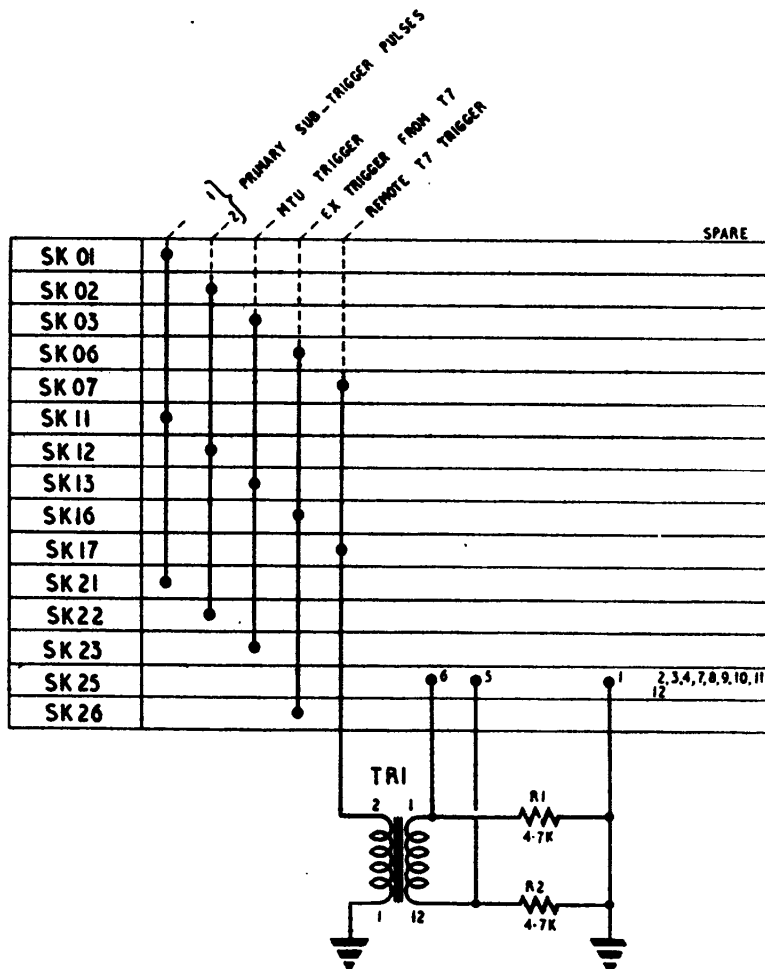
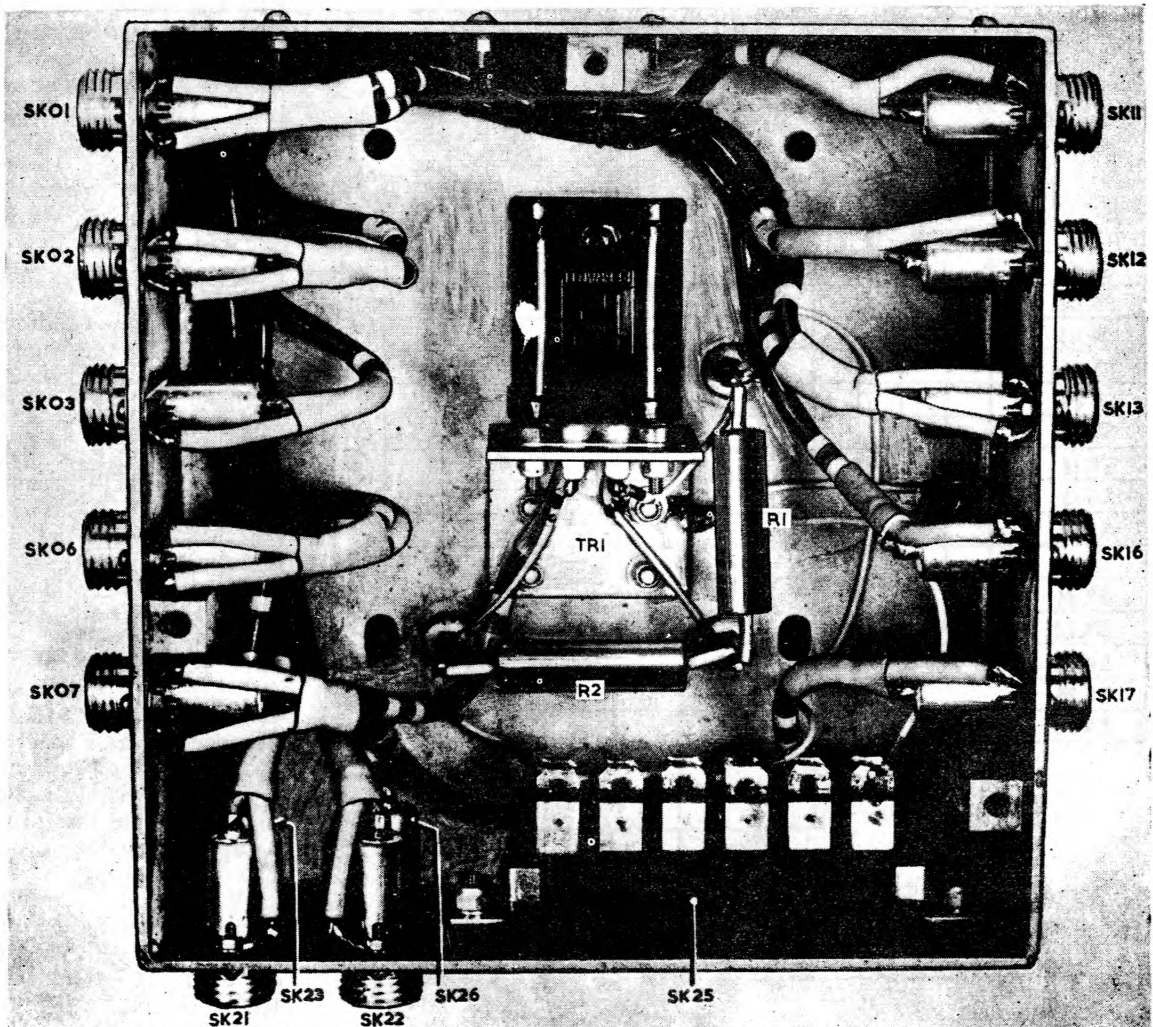

Fig. 6. Junction box 6024 : circuit
Fig. 7. Junction box 6024 : top cover removed
45. The circuit of the junction box is given in fig. 6 and a general view in fig. 7. Pulses are fed in on the sockets SK01, etc., from one unit and on SK11, etc., from the other unit. The Type 7 trigger pulse is fed out via matching transformer TR1 to telephone lines connected to SK25.